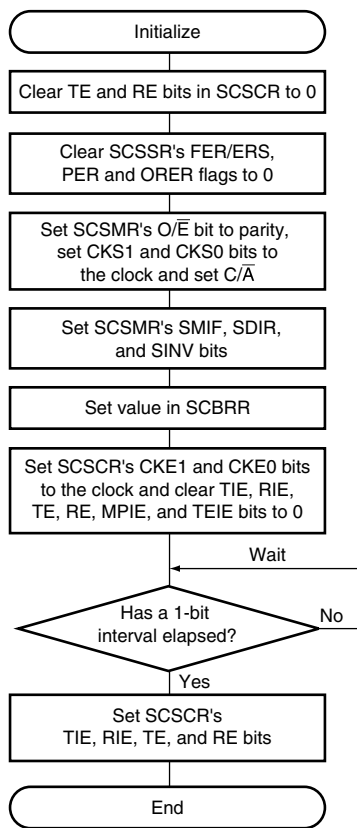

**Figure 15.5 Initialization Flowchart (Example)**
**Initialization:** Initialize the SCI using the following procedure before sending or receiving data. Initialization is also required for switching from transmit mode to receive mode or from receive mode to transmit mode. Figure 15.5 shows an example of initialization process flowchart.
1. Initialize the smart card interface mode as described above in Initialization and in figure 15.5.